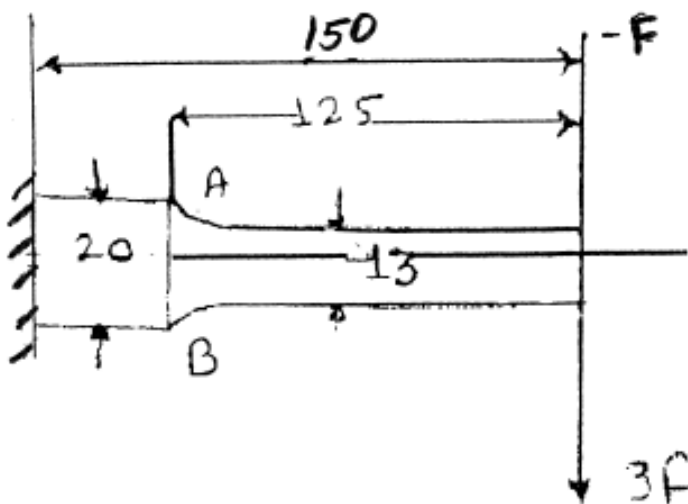

Fig. 3
- b) A cantilever beam made of cold drawn carbon steel of circular crosssection as shown in fig. 3. is subjected to a load which varies from  $-F$  to  $3F$ . Determine the maximum load that this member can withstand for an in definite life using a factor of safety as 2. The theoretical stress concentration factor is 1.42 and notch sensitivity is 0.9. Assume the following values. : 10